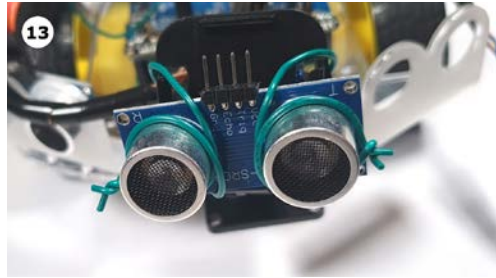

Figure 10.21 – The sensor temporarily secured to the pan-and-tilt head
13. The sensor should now be temporarily secured to the pan-and-tilt head, as shown in *Figure 10.21*. You are now ready to wire it back in: